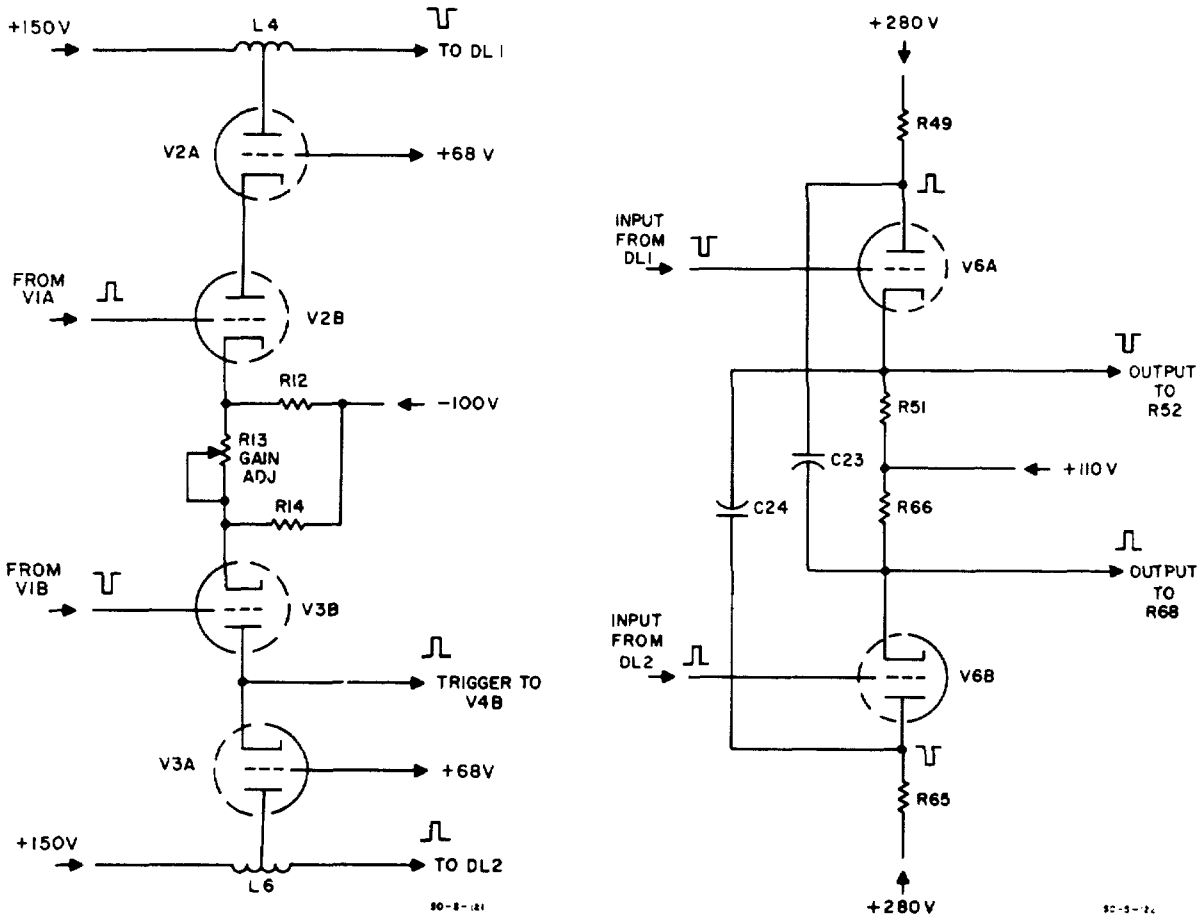

Figure 4-6. Cascode Amplifier/Simplified Schematic Diagram and Cross-Coupled Cathode Follower
The cascode amplifier is a two-stage amplifier with a conventional grid-coupled input and a grounded-grid output. It is used to obtain the high gain of a pentode and the low noise of a triode. Figure 4-6 shows a simplified schematic of the V2/IV3 balanced cascode amplifier circuit. A positive input signal from the input cathode follower is fed to the control grid of V2B. The signal is amplified and the phase is shifted 180°. There is no additional phase shift in the grounded-grid section. The Gain Adj resistor, R13, in the cathode circuit adjusts the gain of the cascode amplifier and sets the overall gain of the main vertical amplifier.
Output amplifier A2 includes an input Cathode Follower V6, a Cascode Amplifier A11, A12, and A13 supplemented by a Constant Current Generator to permit DC coupling between the input and output stages. The Cross-Coupled Cathode Follower (shown in simplified form in figure 4-6) consists of tube V6A and B which provides a high input impedance load to the delay line and a low output impedance to drive the following cascode amplifier. To compensate for the tendency of the load to increase with frequency, the cathode followers are cross-coupled. Cross-coupling places the plate impedance of the opposite side in parallel with the cathode impedance of the first side, thus decreasing it. The crosscoupling capacitors C23 and C24 add this parallel impedance at the high frequencies only.
b. HORIZONTAL AMPLIFIER TROUBLE SHOOTING. Trouble symptoms in the horizontal amplifier fall into four classes: (1) the spot cannot be centered horizontally (DC unbalance); (2) high noise level (ripple or microphonics); (3) incorrect midband sensitivity; or (4) poor high-frequency response. Three separate trouble-shooting procedures are given for trouble shooting these problems in the trouble-shooting chart, figure 4-6. The procedure given for trouble shooting for DC unbalance should also be used in trouble shooting for excessive noise level. Before trouble shooting a problem of sensitivity, be sure that the DC balance and the CRT deflection sensitivity are satisfactory (CRT deflection sensitivity can be checked in response to vertical deflection, indicating that proper high-voltage power supply voltages are applied to the CRT). Since high-frequency response depends upon suitable balance and midband sensitivity, the procedure for trouble shooting high-frequency response is presented last in table 4-6, and presumes that the balance and midband sensitivity are properly set. The troubleshooting techniques upon which the step-by-step procedure of table 4-6 is based are discussed further below. Voltage measurements at test points are shown on both the servicing block diagram (figure 4-9) and the schematic diagram (figure 5-41).